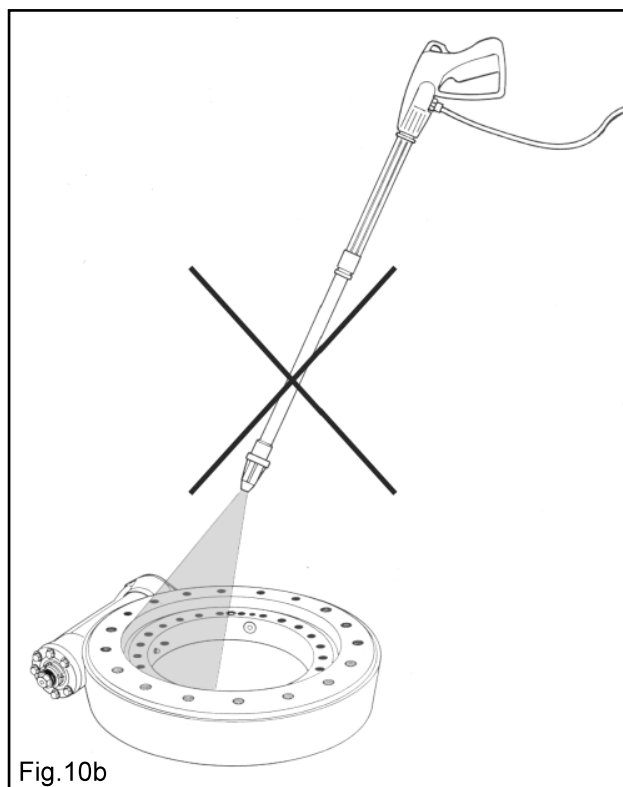

Fig.10b
4. During washing operations please avoid hitting the slew ring with the direct and close jet of a high pressure washer; its strong pressure can raise the lip of the seal with the consequent entry of water (Fig. 10b).